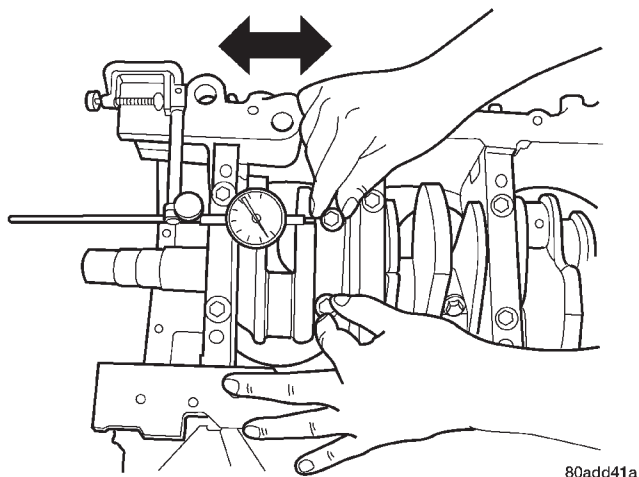

Fig. 14 Connecting Rod Side Clearance Measuring
(2) Necking can be checked by holding a scale or straight edge against the threads. If all the threads do not contact the scale the bolt should be replaced.
(3) Before installing the bolts, lubricate the threads with engine oil.
(4) Install bolts finger tight then alternately torque each nut to assemble the cap properly.
(5) Tighten the nuts to 27 N·m PLUS 1/4 turn (20 ft. lbs. PLUS 1/4 turn).
(6) Mount a dial indicator to a stationary point on engine. Locate probe perpendicular to and resting against the connecting rod cap being checked. Move connecting rod all the way to rear of its travel. Zero the dial indicator. Move connecting rod forward to limit of travel and read the dial indicator (Fig. 14). Refer to Connecting Rod Side Clearance Chart for specifications. Repeat procedure for each connecting rod. Turn crankshaft for connecting rod accessibility.